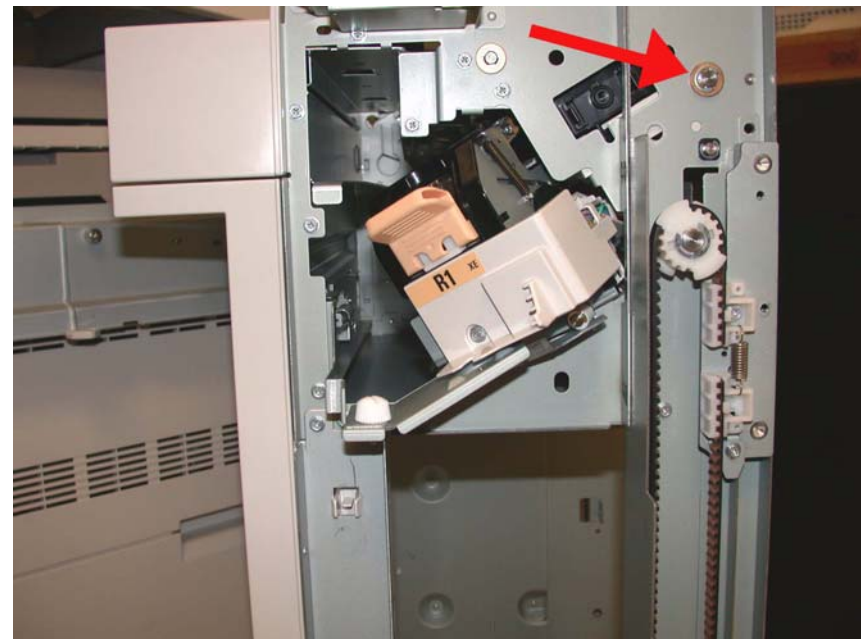

Figure 1 Removing the E-ring and brass bearing
10. Preparing to remove the Eject Roller Shaft (Figure 1).